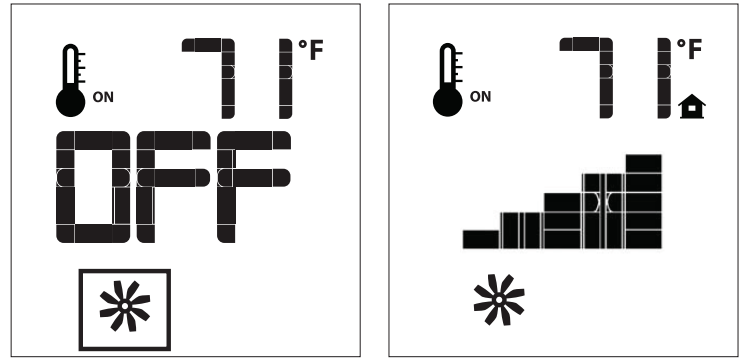

Figure 12: Fan Control
The S20I comes with a convection fan that can be controlled with the Transmitter. The fan speed can be adjusted through six (6) speeds. To control the fan press the MODE key (Figure 4) to index to the fan control icon (Figure 12). Use the UP/DOWN arrow keys to turn on, off, or adjust the fan speed (Figure 12). A single beep from the IFC will confirm the command has been received